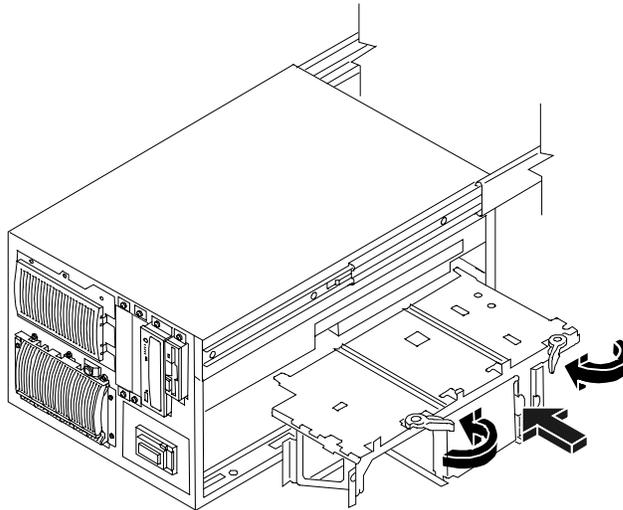

Figure 7-5. Install the System Board Assembly.
18. Re-install the system board assembly into the chassis (see Figure 7-5).